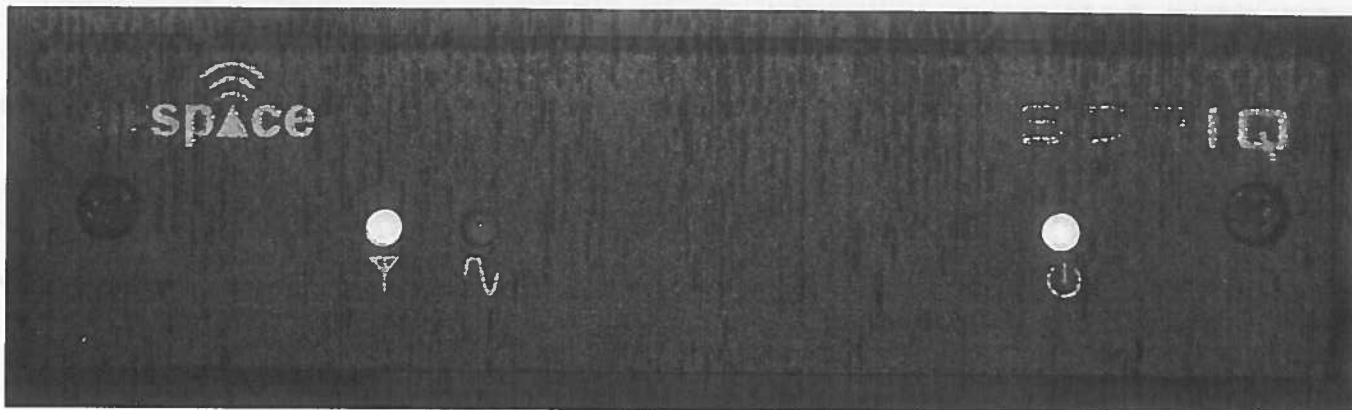

Figure 2 — The SDR-IQ receiver from RFSpace.
- RFSpace SDR-IQ™ receiver (Figure 2).